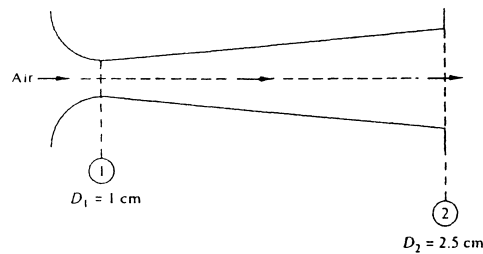

Fig. P3.22
3.22 The converging-diverging nozzle shown in Fig. P3.22 expands and accelerates dry air to supersonic speeds at the exit, where $p_2 = 8 \text{ kPa}$ and $T_2 = 240 \text{ K}$. At the throat, $p_1 = 284 \text{ kPa}$, $T_1 = 665 \text{ K}$, and $V_1 = 517 \text{ m/s}$. For steady compressible flow of an ideal gas, estimate (a) the mass flow in kg/h, (b) the velocity V_2 , and (c) the Mach number Ma_2 .